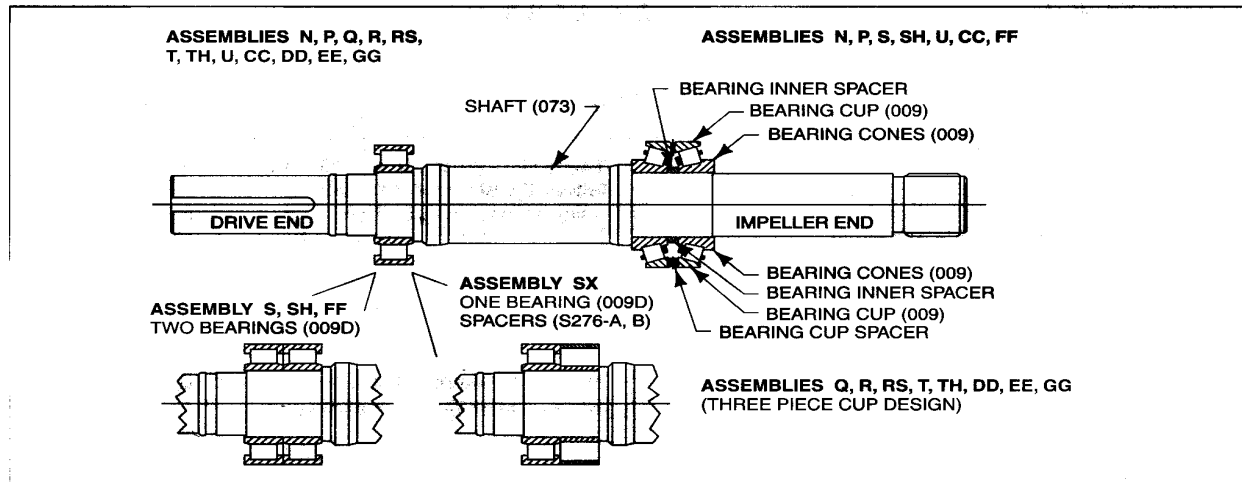

Figure 3-1 • Fitting Drive and Impeller End Bearing Assemblies
The information provided in this section pertains to bearing assemblies built from 1976 to present. See *Figure 3-1* for bearing configuration.
### FITTING OF DRIVE END INNER RING BEARING AND IMPELLER END BEARING (Figure 3-1)
4. Turn shaft end for end (impeller end up). Fit one cone of BEARING (009) with large diameter against shaft shoulder as shown in Figure 3-1.
Fit the cone spacer of BEARING (009) on the shaft against smaller end of cone as shown in Figure 3-1. For bearing assemblies using a one piece cup, check for the correct match number, if applicable, and fit the cup over the cone. With those having a three piece cup, match the cup to the cone, if applicable, and place over the cone. Follow up with the cup spacer and the remaining cup.
5. Fit the second cone of BEARING (009) on the shaft with the smaller end of the bearing against the spacer. It is important that the cones and spacer are located hard against one another and against the shaft shoulder.